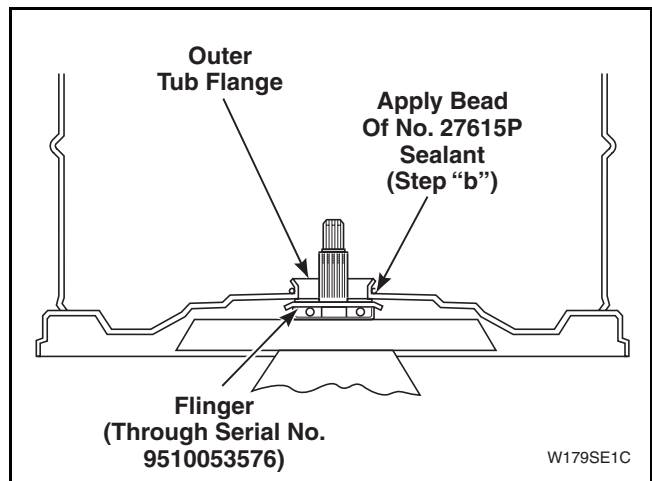

Figure 37
- a. Apply a small amount of 27615P Sealant, (3M800) (not supplied in kit) around outer surface of tub flange. Refer to *Figure 37*.
IMPORTANT: DO NOT allow sealant to contact flinger (if present), because this could prevent flinger from keeping moisture out of upper bearing. Refer to *Figure 37*.
- b. Apply a small amount of No. 27615P Sealant (3M800) (not supplied in kit) around outer surface of tub flange. Refer to *Figure 37*.
IMPORTANT: DO NOT allow sealant to come in contact with flinger (if present), because this could prevent flinger from keeping moisture out of upper bearing. Refer to *Figure 37*.